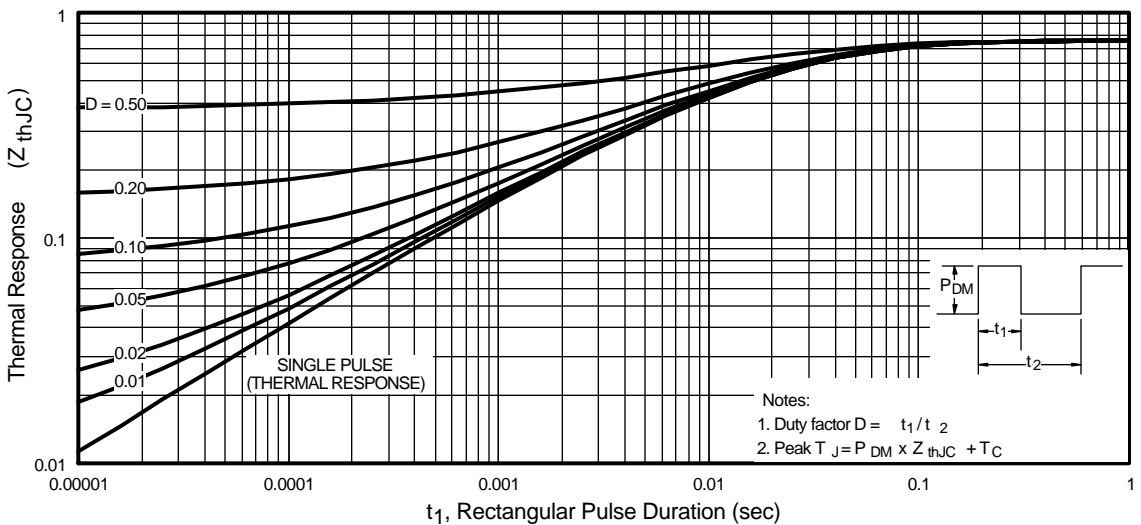

Fig 11. Maximum Effective Transient Thermal Impedance, Junction-to-Case
① Repetitive rating; pulse width limited by max. junction temperature. (See fig. 11)
④ Pulse width $\leq 300\mu s$; duty cycle $\leq 2\%$.
② Starting $T_J = 25^\circ\text{C}$, $L = 1.3mH$